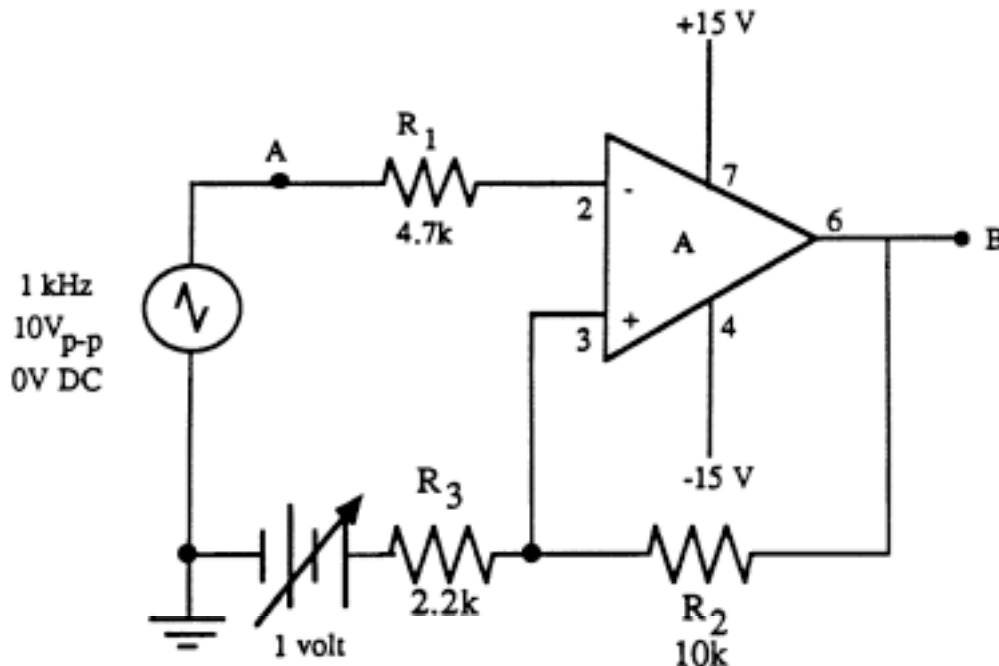

Figure 3 - Schmitt trigger
The amplifiers you built in previous labs used negative feedback – a resistor feeding the output signal back to the inverting input. By using positive feedback – a resistor feeding the output back to the non-inverting input – the two switching points can be moved further apart. Consider the circuit of Figure 3 and assume that the input is zero, that the output is +15 volts, and that $R_2=R_3$. R_2 and R_3 set the voltage at the non-inverting input to +7.5 volts, $(V_+ - V_-)$ is greater than 0, and the output is indeed forced to +15 volts. If we raise the voltage to slightly above 7.5 volts, e.g., +7.50015 volts, then $A(V_+ - V_-)$ is greater than -15 volts and the output switches to -15 volts. This changes the voltage at the non-inverting input to -7.5 volts which makes $(V_+ - V_-)$ very negative, maintaining the output at -15 volts. The output will stay at -15 volts until the input drops to slightly below -7.5 volts, e.g., -7.50015 volts which will make $A(V_+ - V_-)$ go to +15 volts, setting the output to +15 volts, setting the non-inverting input to +7.5 volts. This makes $(V_+ - V_-)$ very positive, maintaining the output at +15 volts. We can summarize the operation of the circuit by saying that, when the input goes above the upper switching point, the output will go negative and stay negative until the input goes below the lower switching point. This characteristic is called “hysteresis” and this type of circuit is called a “Schmitt trigger.”
- (1) Build the Schmitt trigger circuit of Fig. 3 with $R_2 = 10K$ and $R_3 = 2.2K$. Use the same input waveform as you used in Part 1 and initially set the DC offset to 0V.
- (2) Display points A and B simultaneously on the oscilloscope and record the waveforms using Benchlink.
- (3) Carefully note their phase difference and the two switching points.
- (4) Slowly vary the DC offset between 0V and +3V and observe what happens at point B.
Calculate the switching points for the circuit of figure 3 without using your experimental data. **SHOW WORK!!**